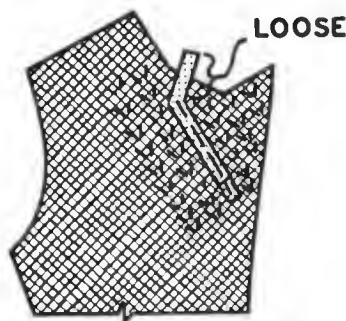

Fig. 158. Allow  $\frac{1}{8}$  in. free along the seamline.
4. Leave the seam edges, plus  $\frac{1}{8}$  in. free along the seamline of the lapel (Fig. 158).